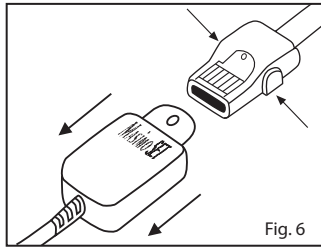

Fig. 6
1. Refer to **Fig. 6**. Place thumb and index finger on the buttons on either side of the connector.